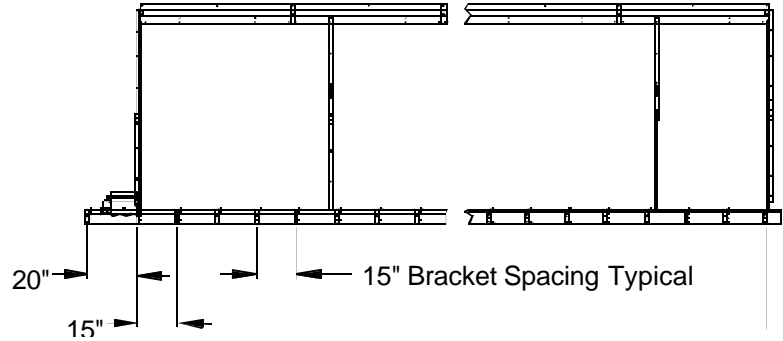

Figure 6. Bottom Bracket Spacing.
3. Install Bottom Brackets every 15" except for non-sump end, shown in **Figure 6**.